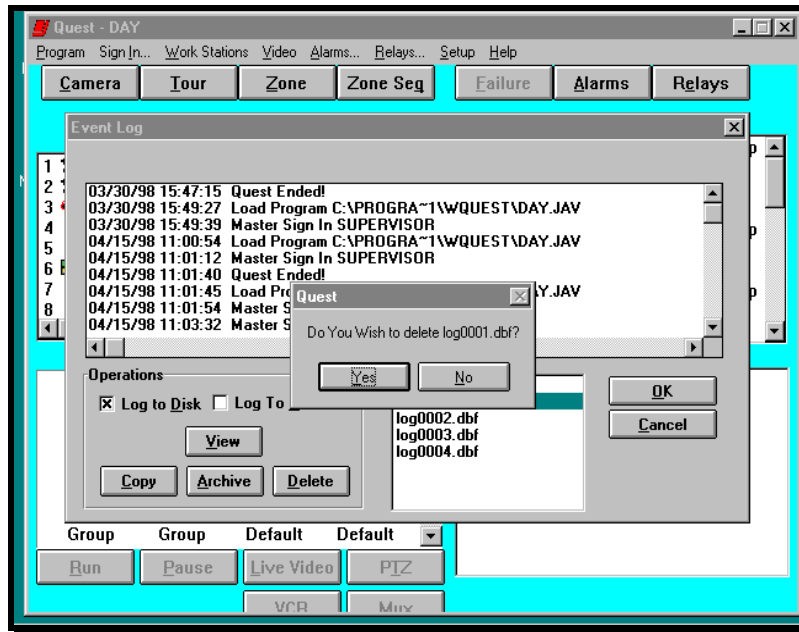

Figure 3-32. Delete Event Log
4. To delete the current event log, select the log you want to remove and click on the **Delete** button. The File Delete dialog box will be displayed (Figure 3-32).